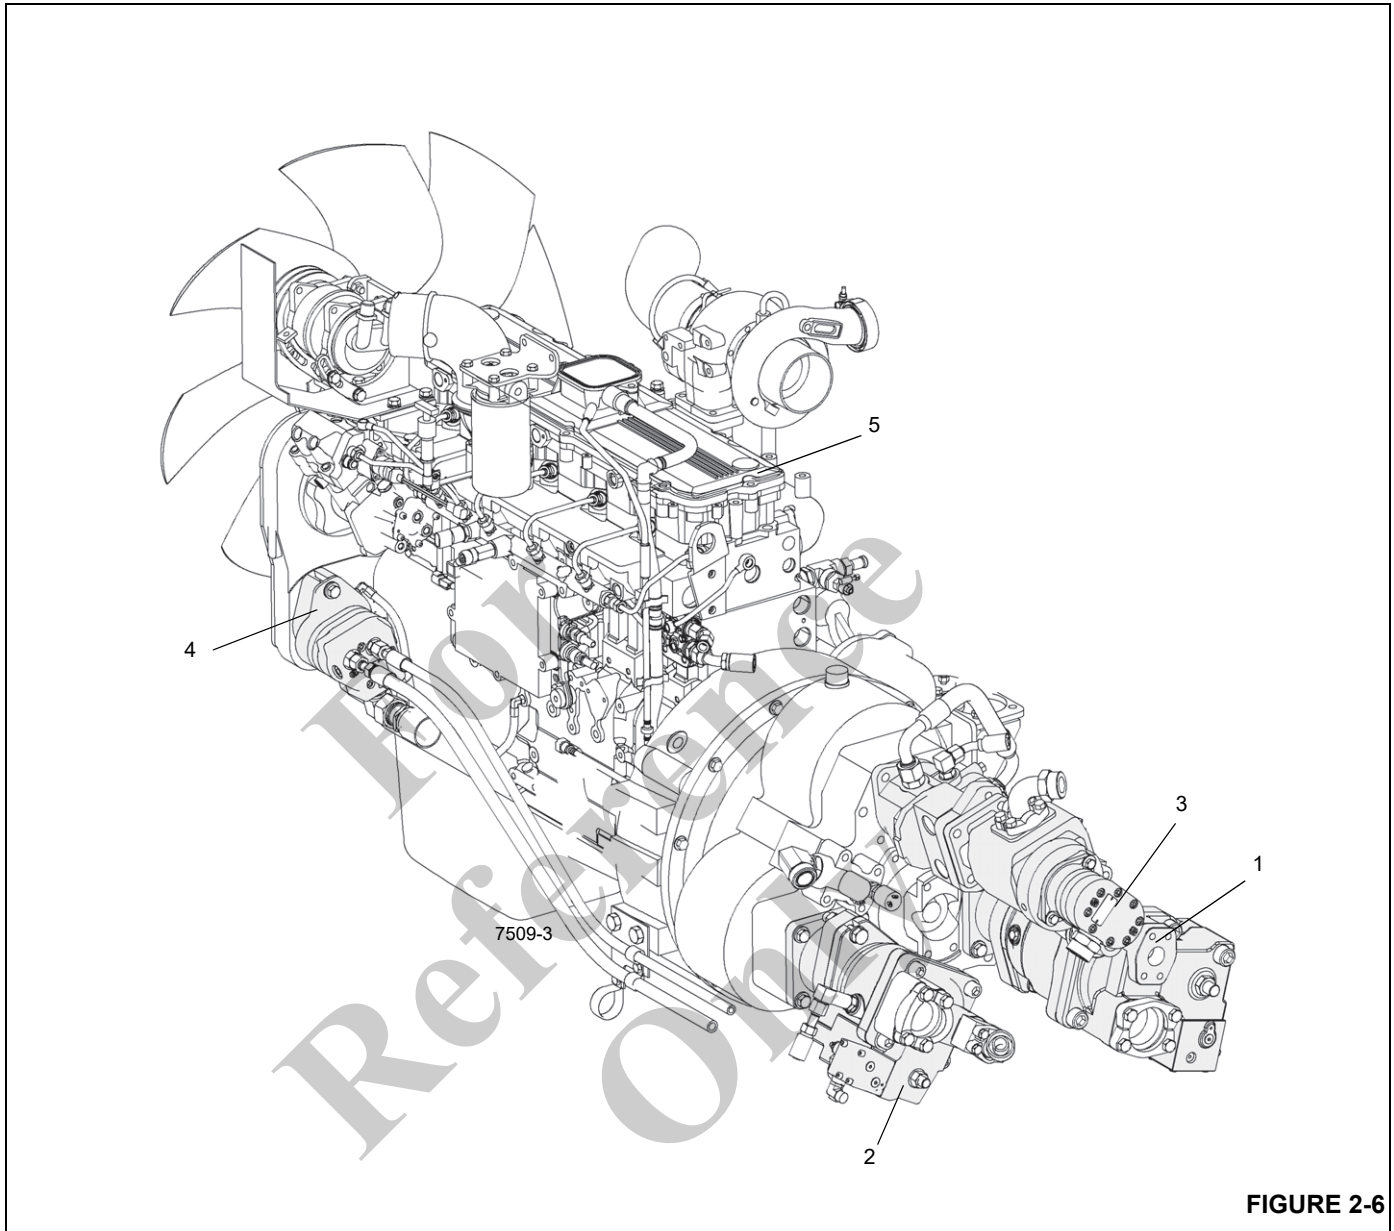

FIGURE 2-6
**NOTE:** Refer to (Figure 2-6) for pump locations.